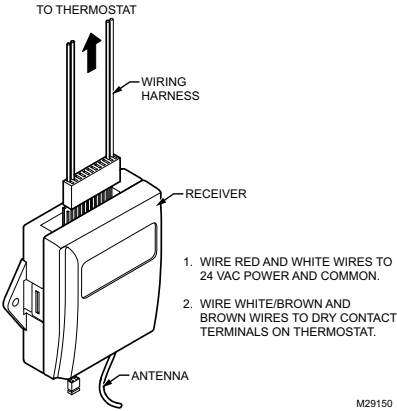

Fig. 3. Receiver and wiring harness.
- Using Table 3 on page 3 and Fig. 3, wire the harness to the thermostat and connect the harness to the receiver.